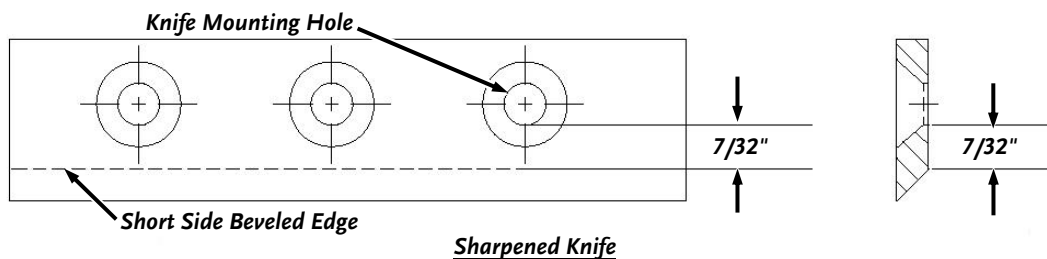

Figure 25
- Once this measurement is below $7/32$ " (**Figure 25**), or if you are unable to remove dents or gouges with these guidelines, replace the Knife.